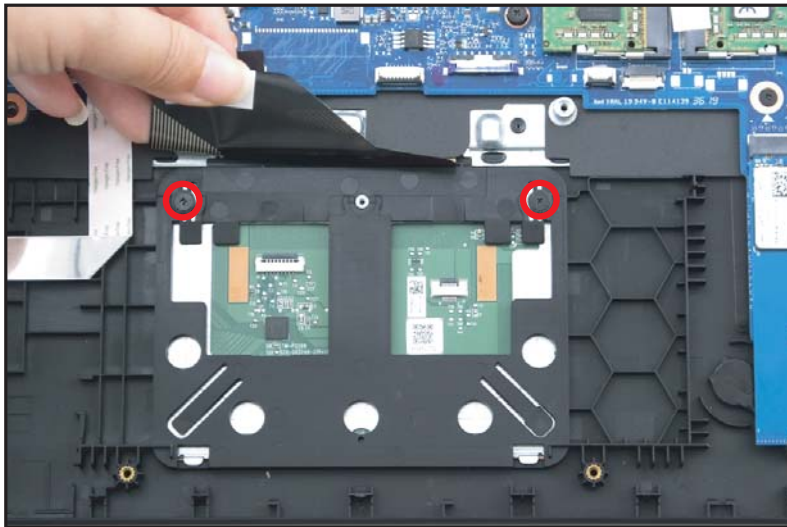

Figure 1-24. Touchpad Board Removal
4. Remove two (2) screws securing the touchpad module in place (Figure 1-24).